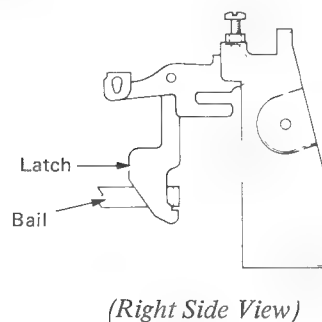

Figure 6
- o. (RB/S) Position the carrier return and backspace latches to the front of the cam follower bail (Figure 6).